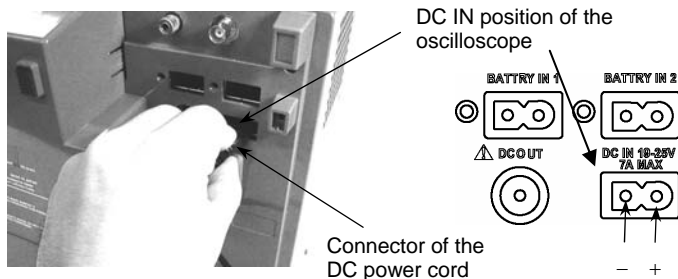

Figure 7 Connecting the DC Power Cord
1. Connect the DC power cord of the DC adapter to the DC IN at the upper right corner of the rear of the oscilloscope. (See Figure 7 below.)